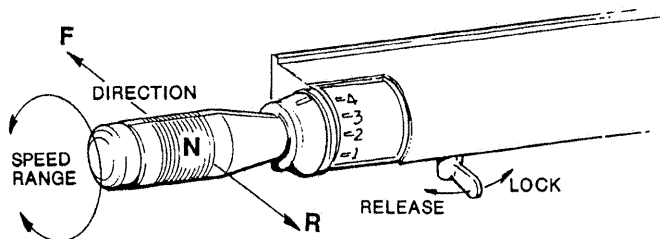

Fig. 3-12 Transmission Control Handle
35. Transmission Control Handle See Fig. 3-12 Optional Electric Shift